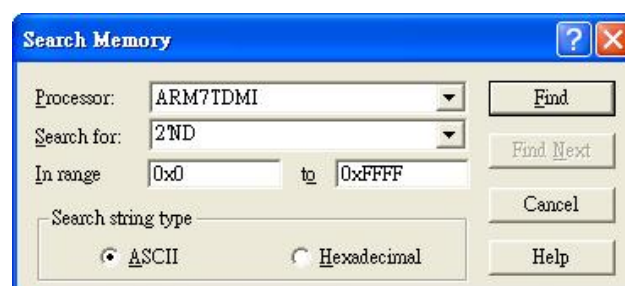

Figure 20. Search for a string in memory.
- Select **Memory** from the **Search menu** (Figure 1). A window shown in Figure 20 appears.